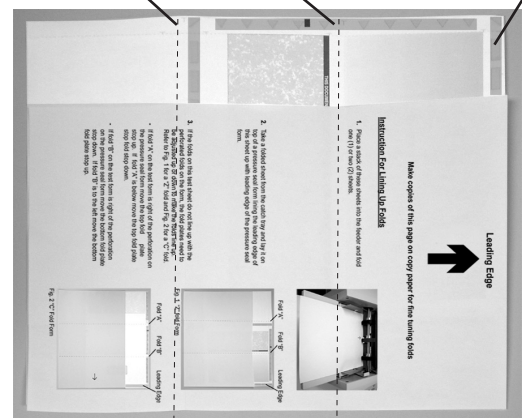
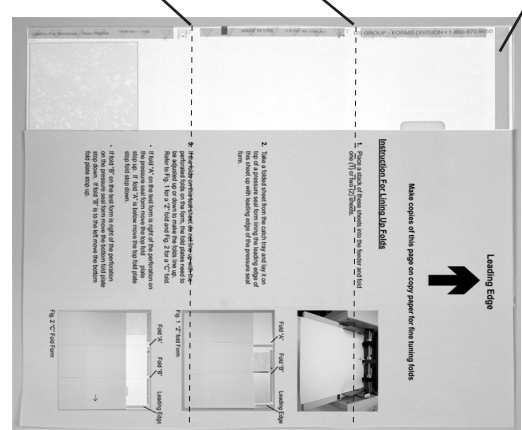

Fig. 35 "Z" fold Form
Fig. 36 "C" Fold Form
3. If the folds on this test sheet do not line up with the perforated folds on the form, the fold plates need to be adjusted up or down to make the folds line up. Refer to Fig. 35 for a "Z" fold and Fig. 36 for a "C" fold.